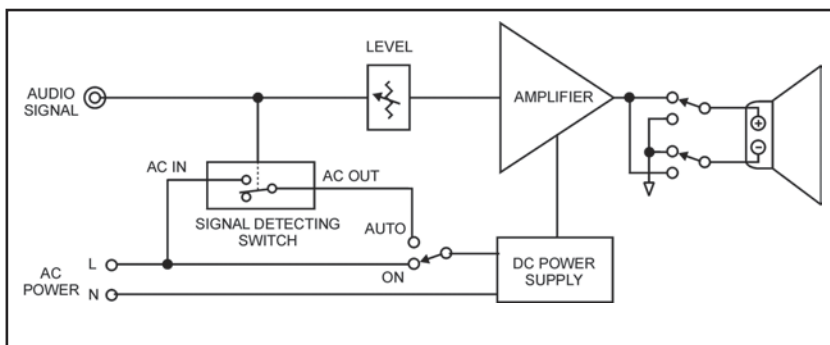

Figure 3: The block diagram details the various electronics and how they are tied together.
Next, I selected an amplifier to power the subwoofer. The amplifier is based on the Texas Instruments LM49830 integrated circuit (IC) driving a MOSFET output stage. **Figure 3** shows the various blocks of electronics and how they are tied together. With some minor variations, I basically implemented the reference amplifier shown in Texas Instruments' datasheet.